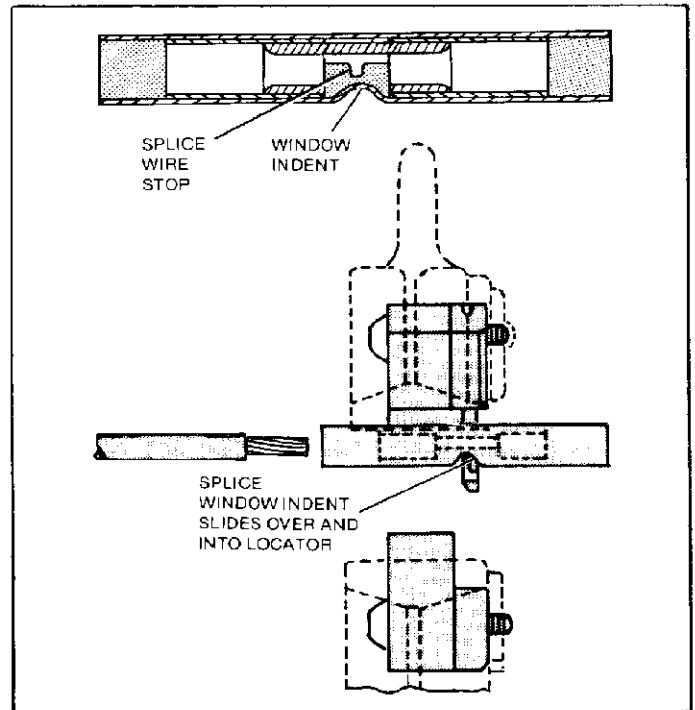

Figure 3
- (f) Insert stripped wire into splice wire barrel. Place splice in stationary die as shown in Figure 3. See Figure 2 for wire strip length.
- Place splice in stationary die as shown in Figure 3.